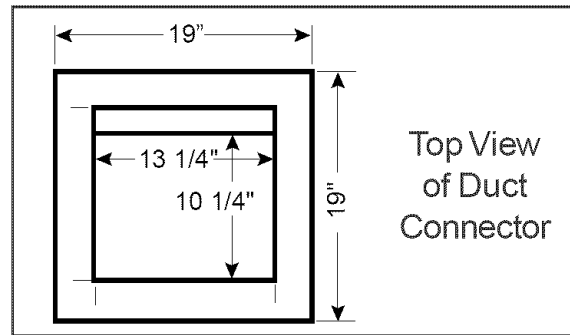

Figure 4.
- Locate center of the floor opening, measured 10" from the rear wall, and mark cut-out measuring approximately 14-1/2" by 14-1/2" ( $\pm 1$ ") for model duct connector used (refer to Figures 4 & 5).